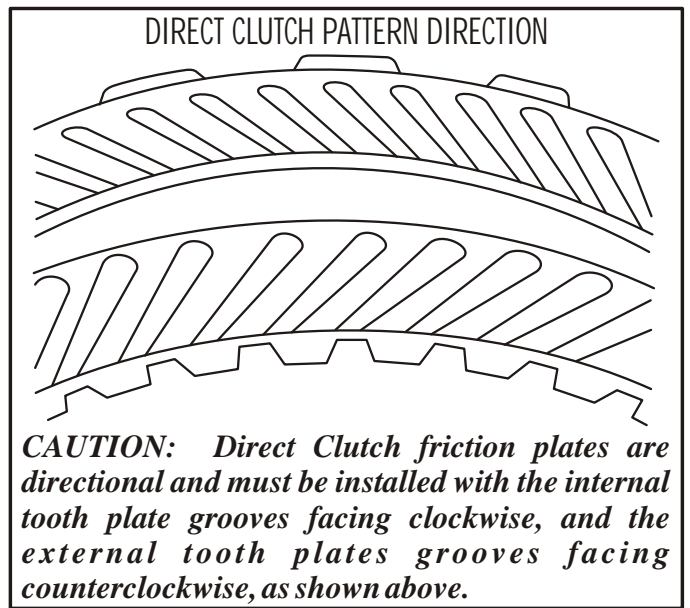

Figure 79
**CAUTION:** *Direct Clutch friction plates are directional and must be installed with the internal tooth plate grooves facing clockwise, and the external tooth plates grooves facing counterclockwise, as shown in Figure 79.*